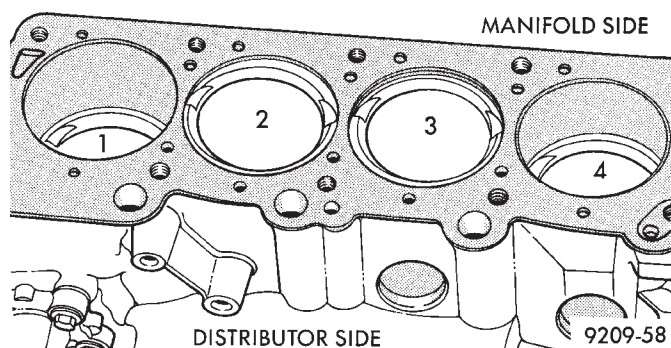

Fig. 21 Piston Markings
(4) The valve cut should be toward the manifold side of the engine (Fig. 21).